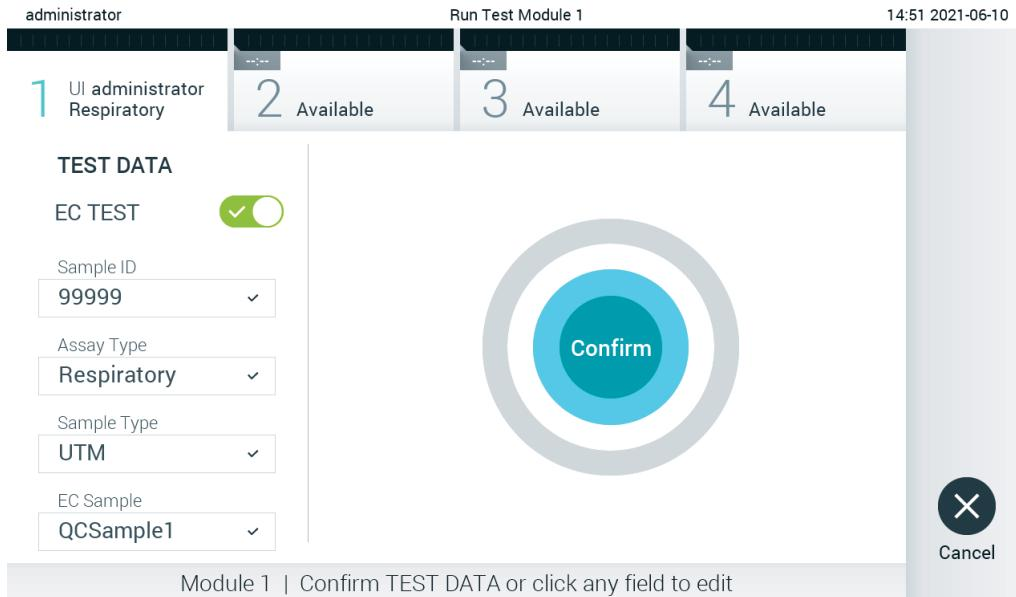

Figure 92. The Confirm screen.
7. The **Confirm** screen will appear. Review the data entered and make any necessary changes by pressing the relevant fields on the touchscreen and editing the information (Figure 92).